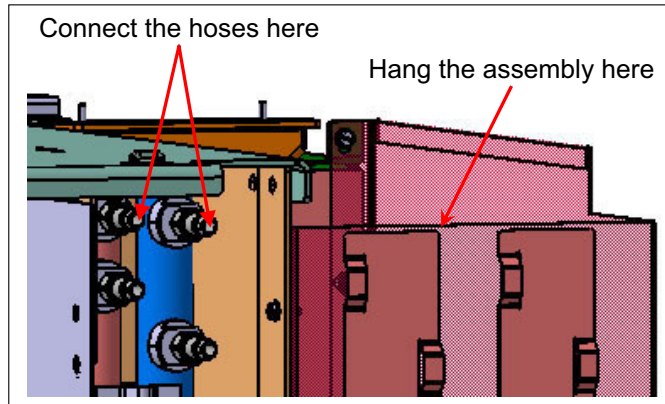

Figure 1-24 Air purging connections
3. Attach two air purge hoses to each air purge assembly, as indicated in Figure 1-24 on page 19.
5. Hang each assembly, as indicated in Figure 1-24 on page 19. There is one assembly for the front of the rack and one assembly for the back of the rack.
6. Attach the two air purging hoses, from each of the assemblies, to the rack coolant manifold. See Figure 1-24.